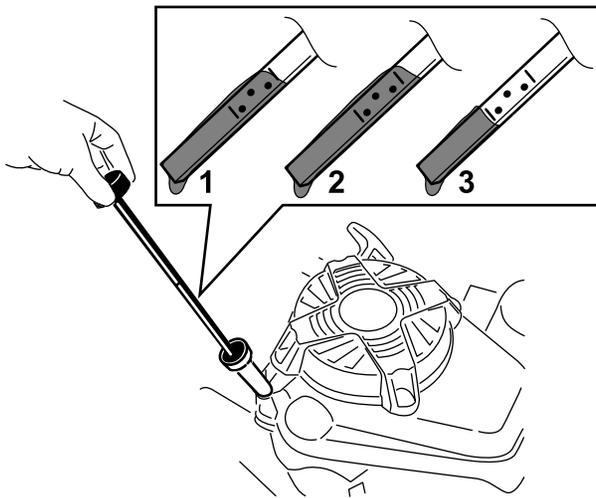

Figure 22
- Remove the dipstick by rotating the cap counterclockwise and pulling it out (Figure 22).
- Read the oil level on the dipstick (Figure 22).